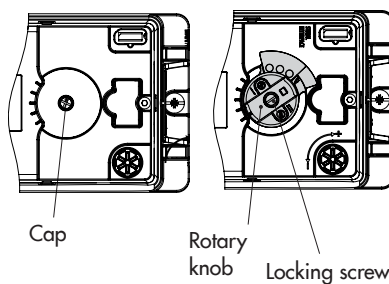

Fig. 5-5: Shaft locking
Use the Phillips screw head on the cap to lock the positioner shaft in place (see Fig. 5-5 left).
- ➔ Do not use the locking screw to turn the positioner shaft knob. Only turn the rotary knob by hand (see Fig. 5-5, right).
5. Check the pin position of the follower pin (2) on M lever (1). Refer to travel tables for type of attachment. If necessary, change the pin position (see Chapter 5.4).
6. Insert molded seal (15) into the groove of the positioner housing and insert the seal (10.1) on the back of the housing.
7. Place positioner on the cover plate (10) in such a manner that the follower pin (2) rests on the top of the follower clamp (3). Adjust the lever (1) correspondingly and open the positioner cover to hold the positioner shaft in position at the shaft lock (Fig. 5-5). The lever (1) must rest on the follower clamp with spring force. Fasten the positioner on the cover plate (10) using the two fastening screws.
8. Mount cover (11) on the other side. Make sure that the vent plug is located at the bottom when the control valve is installed to allow any condensed water that collects to drain off.
4. Check the pin position of the follower pin (2) on M lever (1). Refer to travel tables for type of attachment. If necessary, change the pin position (see Chapter 5.4).
5. Insert molded seal (15) into the groove of the positioner housing.
6. Place positioner on the cover plate in such a manner that the follower pin (2) rests on the top of the follower clamp (3). Adjust the lever (1) correspondingly and open the positioner cover to hold the positioner shaft in position at the shaft lock (Fig. 5-5). The lever (1) must rest on the follower clamp with spring force.
- Fasten the positioner on the cover plate (10) using the two fastening screws.
7. Make sure that the tip of the gasket (16) projecting from the side of the connection block is positioned to match the actuator symbol for the actuator's fail-safe action "actuator stem extends" or "actuator stem retracts". If this is not the case, unscrew the three fastening screws and lift off the cover. Turn the gasket (16) by 180° and re-insert it.
8. Place the connection block (12) with the associated seals against the positioner and the actuator yoke and fasten using the screw (12.1). For actuators with fail-safe action "actuator stem retracts", additionally remove the stopper (12.2) and mount the external signal pressure pipe.
9. Mount cover (11) on the other side. Make sure that the vent plug is located at the bottom when the control valve is installed to allow any condensed water that collects to drain off.